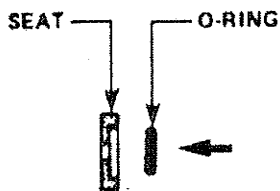

Figure 18 Insert O-ring Into Seat
4. Examine the skirt's mating surface and grooves for foreign matter, burrs or scratches that could degrade sealing. See Fig. 18.
4. Lightly coat a new O-ring with vacuum grease. Place it in the recess in the seat. See Figure 18.